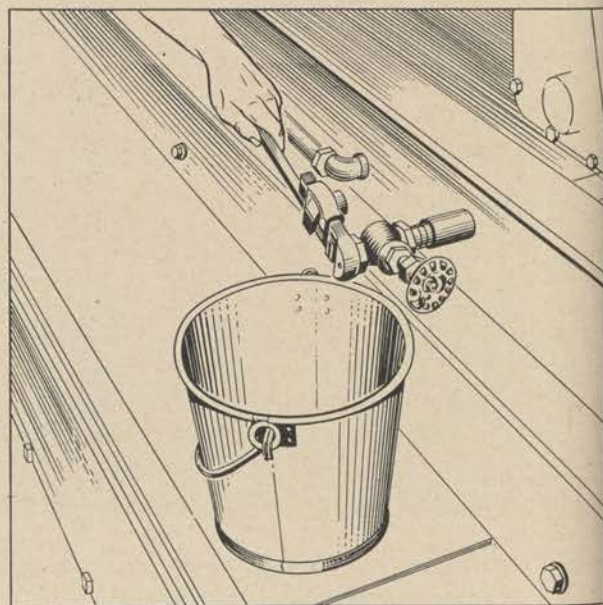

Figure 196. Draining engine sump.
2. The screw assembly (10), gasket (1), spring (3), and plate assembly (4), are held in place in the top cover (2), by a snap ring (5), that fits in a groove on the screw assembly (10). They, in
(8) *Draining and washing crankcase.* A pipe fitted with a valve is connected to the crankcase sump. To drain, run the engine until the oil is heated, then open the valve on the engine mounting rail. (See fig. 196.)